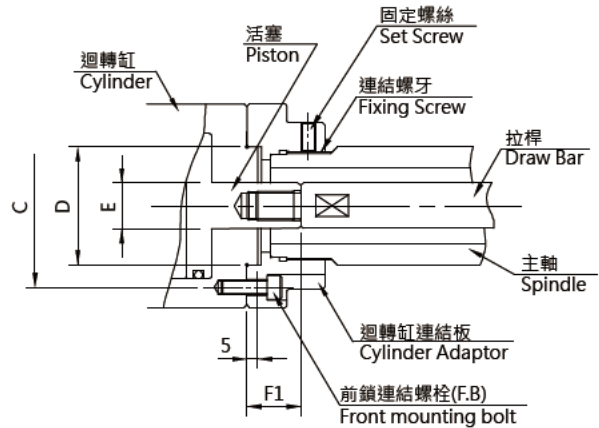

Fig.3 空壓缸連結板的安裝
- Be sure air cylinder near the spindle support of the lathe.(see Fig.3)